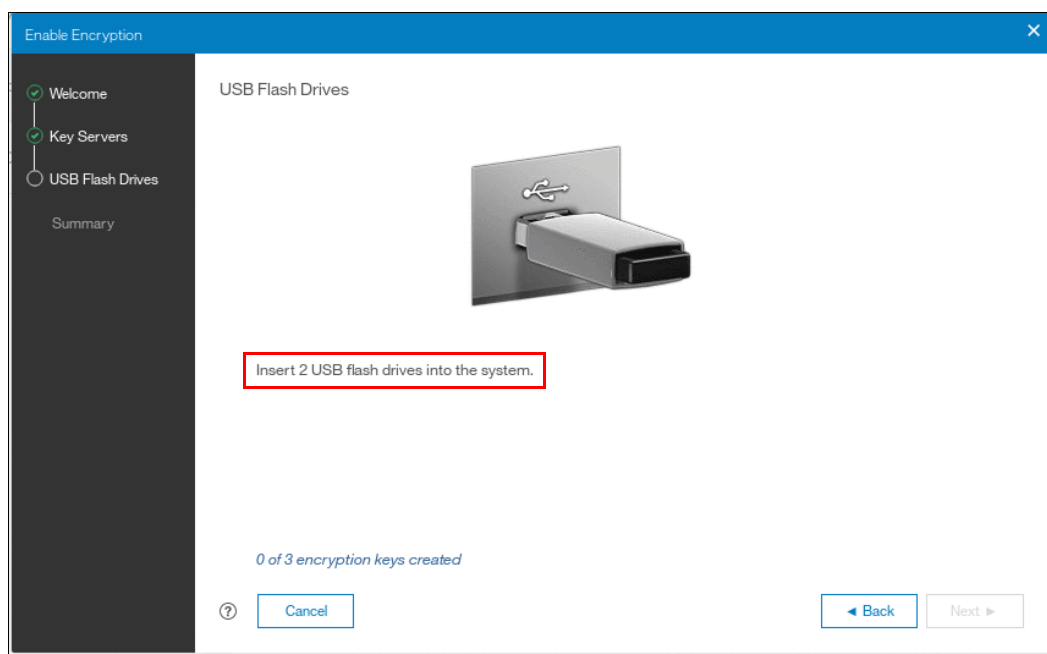

Figure 13-47 At least 3 USB flash drives are required to configure USB flash drive key provider
9. The next step in the wizard is to store the master encryption key copies on USB flash drives. If there are fewer than three drives detected, the system will request plugging additional USB flash drives as shown on Figure 13-47. You cannot proceed until the required minimum number of USB flash drives is detected by the system.